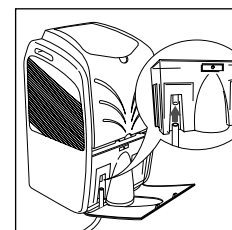

fig. 3
- To fit the rubber hose to the spout, open the door, remove the tank, pass the drain hose provided through the space between the door (at a slight angle) and the bottom of the appliance, reposition the tank and fit the hose onto the spout (Fig. 3).